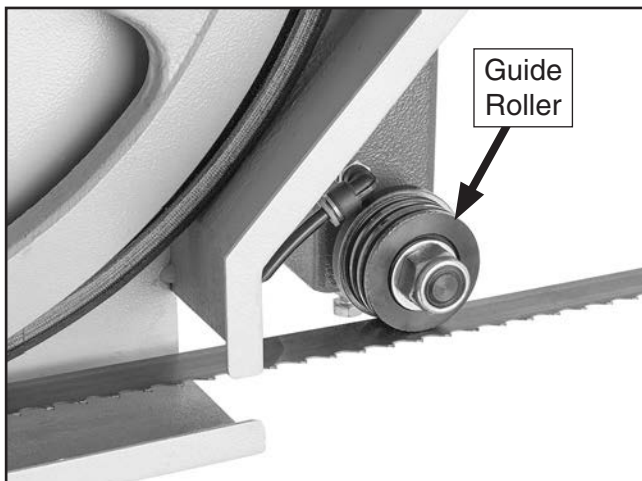

Figure 26. Proper blade routing.
4. Slide blade through slots in bottom of blade housing and under guide rollers (see **Figure 26**), then slide blade over each wheel.